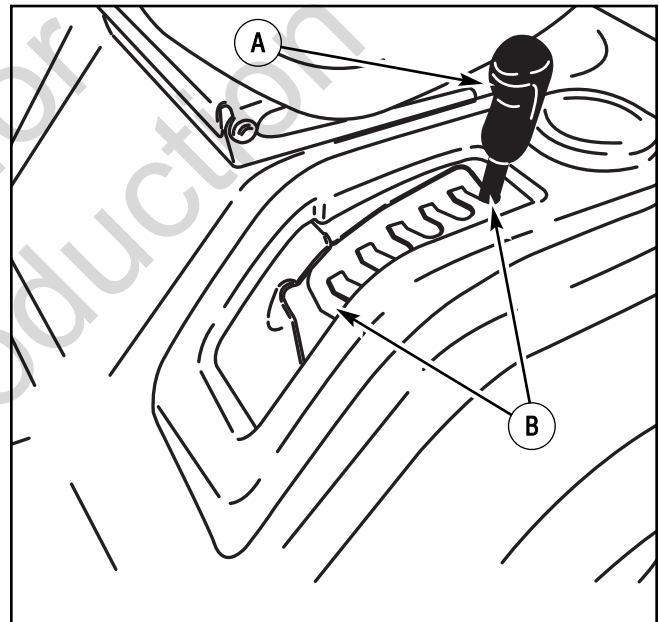

Figure 37: Cutting position
- Raise the deck lift lever from the LEVEL ADJUSTMENT position to a CUTTING HEIGHT position (Figure 37).